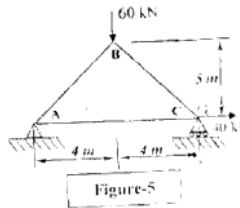

Figure-5
8. For the simply supported plane truss shown in Figure-5. calculate the joint displacements in X and Y directions (horizontal & vertical), using *Matrix method of analysis*. Also obtain the forces induced in the members of the truss. Assume cross sectional area  $A = 500 \text{ mm}^2$  and Modulus of Elasticity  $E = 200 \text{ GPa}$ , for all members of the truss.  $9+5=14$